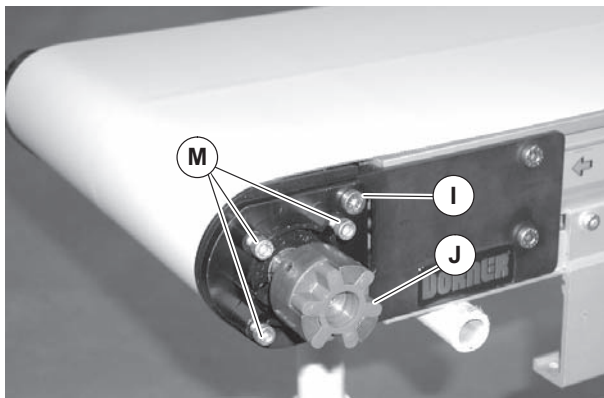

Figure 23
- b. Remove the four (4) screws (Figure 23, item M) and two (2) screws (I and J)